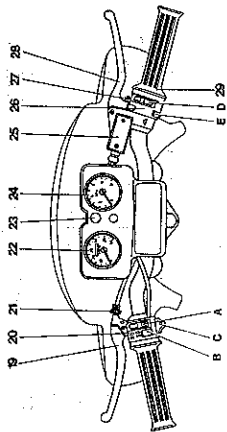

fig. 2
Gearing to first speed is effected by pressing clutch lever (pos. 19, fig. 2, 4) and gearshift lever downwards. Slowly release the clutch lever, simultaneously increase the throttle opening and lead away.